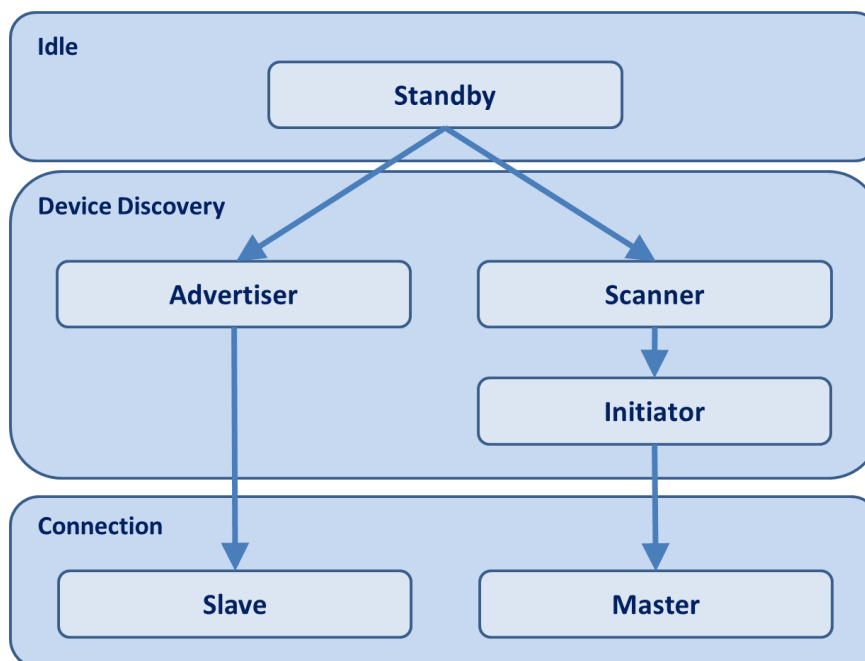

Figure 3: Link Layer States
The LL principally controls the Radio Frequency (RF) state of the device and manages the link state of the radio which is how the device connects to other devices. A BLE device can be a master, a slave, or both depending on the use case and the corresponding requirements. A master is able to connect to multiple slaves and a slave can be connected to multiple masters. Typically, devices such as smartphones or tablets tend to act as a master, while smaller, simpler, and memory-constrained devices such as standalone sensors generally adopt the slave role. A device can only be in one of the following five states: standby, advertising, scanning, initiating, or connected as shown in Figure 3: